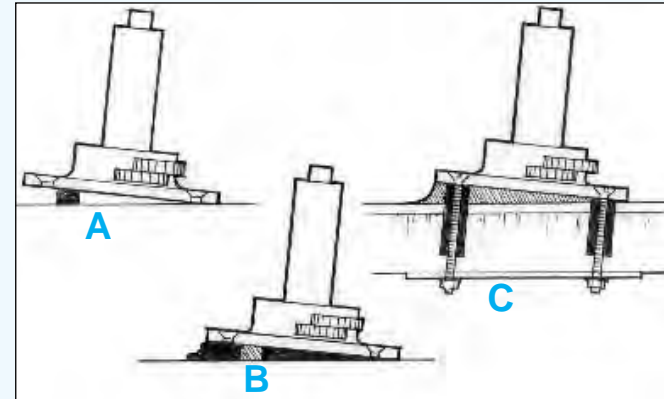

Figure 19 Support the base in position with blocking - apply enough thickened epoxy to fill the void.
2. Bond small blocks to the substrate to support the base at the desired height and position (e.g., *winch base, Figure 19"A*”).
4. Place the hardware in position, resting on the blocks (*Figure 19"B*”) and install the fasteners.
5. Smooth the excess epoxy into the desired fillet shape around the base (*Figure 19"C*”). Allow the epoxy to cure fully before loading. Protect exposed epoxy from UV. (see *finish coating page 29*).